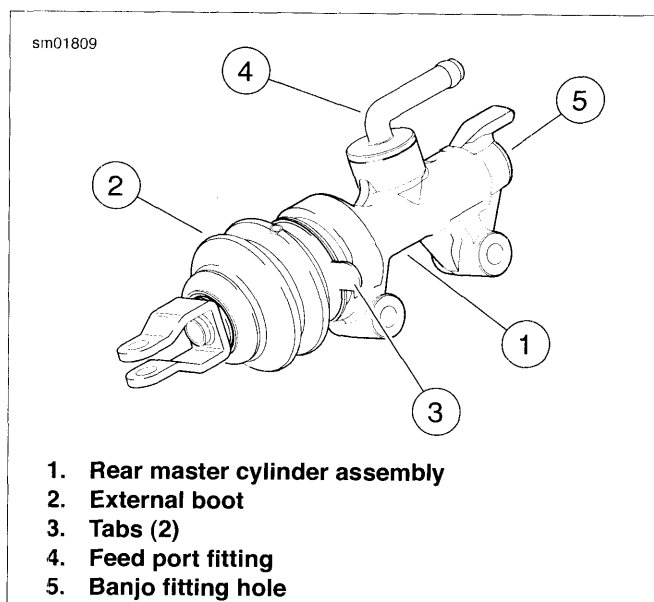

Figure 2-82. Assembled Rear Master Cylinder
2. Slide dust cover (23) onto feed port fitting and press into place in master cylinder feed port. See Figure 2-82. Turn feed port fitting (4) so it points toward banjo fitting (5) end of master cylinder body (1).
15. Remove master cylinder assembly from vise. See Figure 2-82. Slide external boot (2) over yoke/push rod assembly and external return spring.
16. Position external boot so that tabs (3) are at the 3-o'clock and 9-o'clock position when master cylinder body (1) is held upright. This assures that drain hole is at bottom of boot when master cylinder is mounted on motorcycle. Make sure that lip on large end of external boot fits fully in groove in end of master cylinder. Make sure that spring retainer is fully seated in groove in small end of external boot.